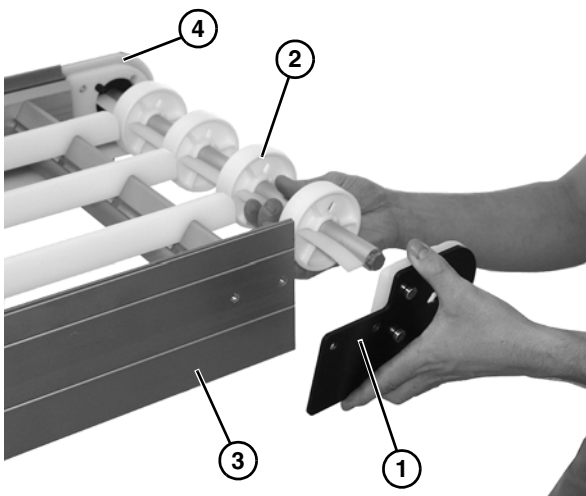

Figure 56
3. Remove end plate (Figure 56, item 1) and roller assembly (Figure 56, item 2) from conveyor frame (Figure 56, item 3) and opposite end plate (Figure 56, item 4).